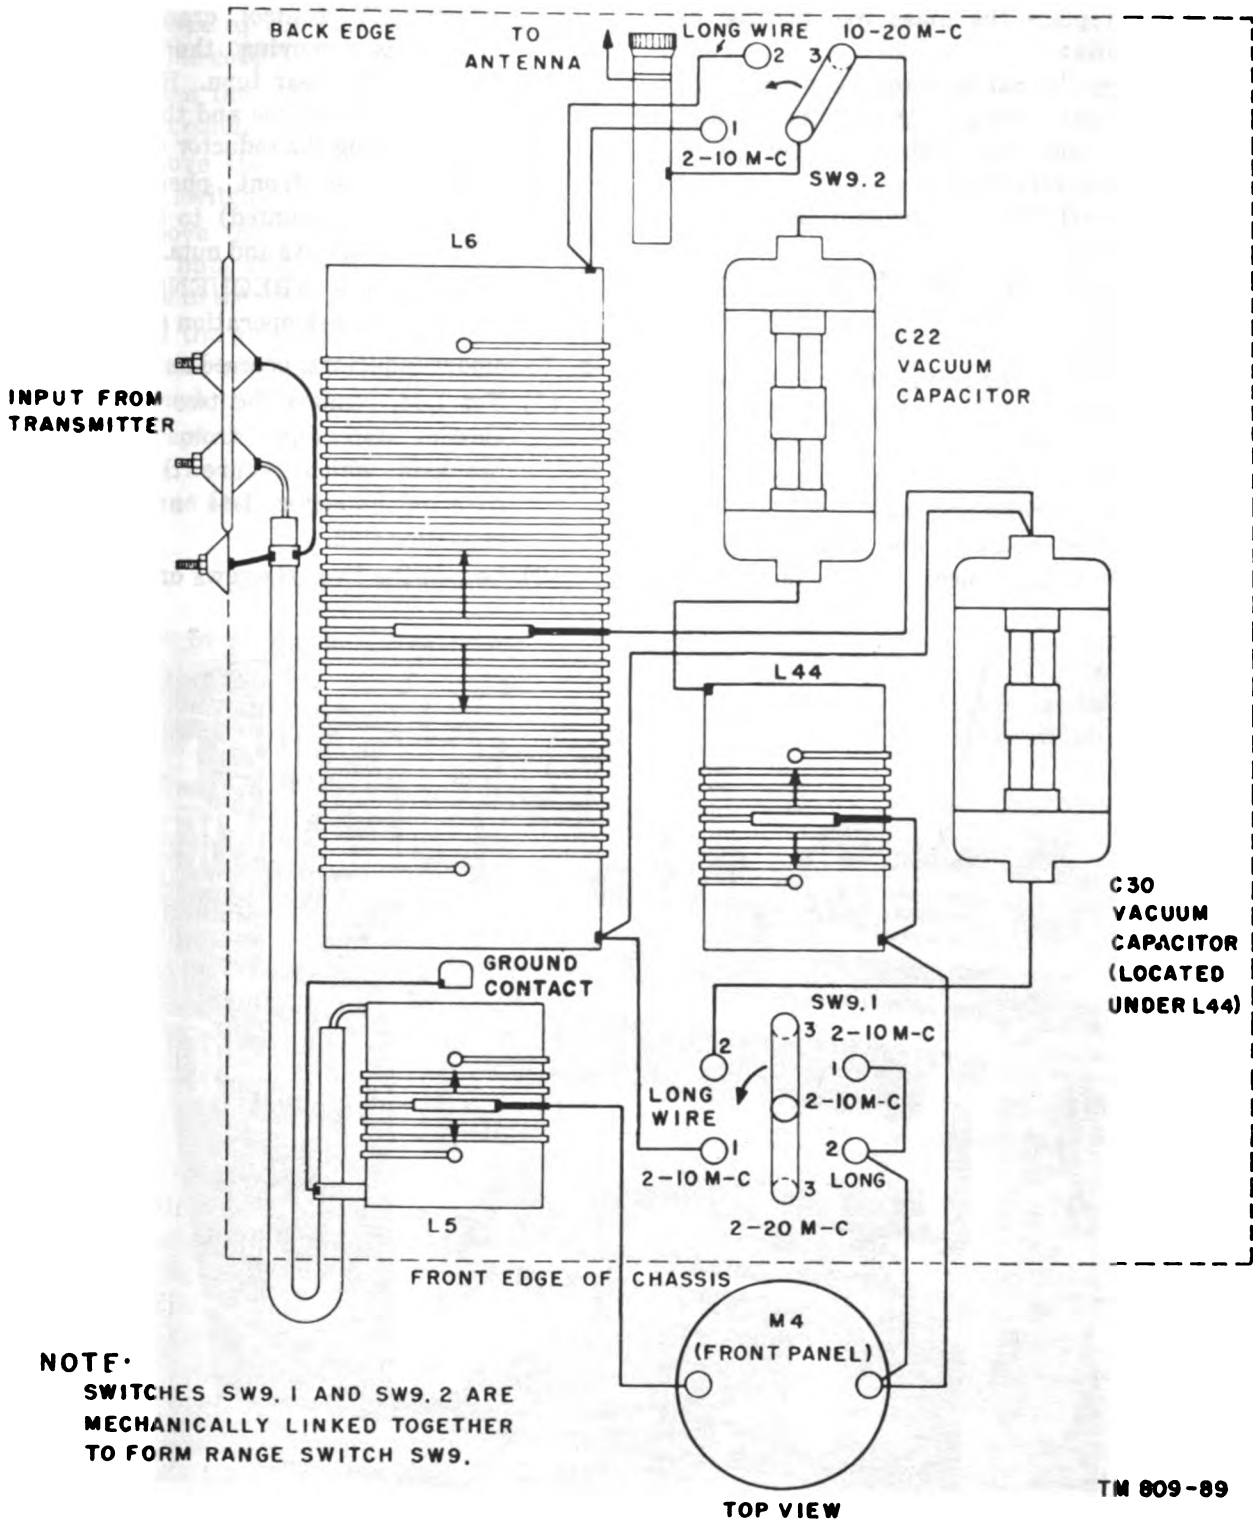

Figure 94. Antenna tuning unit, practical wiring diagram.
42. Servicing Antenna Tuning Unit BC-939-B (figs. 94 and 95)